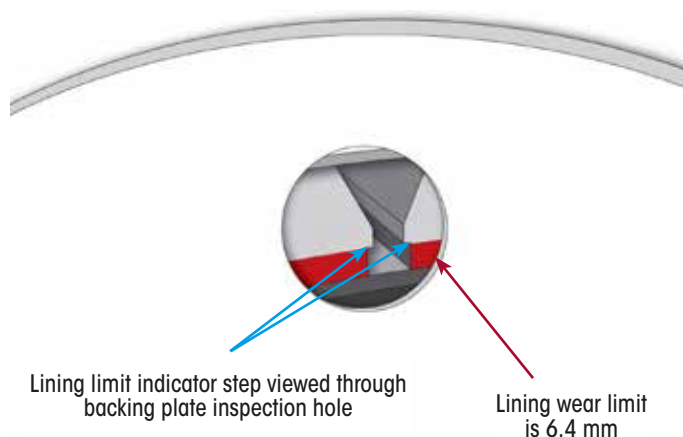

Figure 26: Brake Inspection Through Dust Shield
4. Hendrickson brake linings have an indicator step to show when the linings are due for replacement and the drums have a wear edge to give an indication of maximum service dimension. Refer Figure 26.